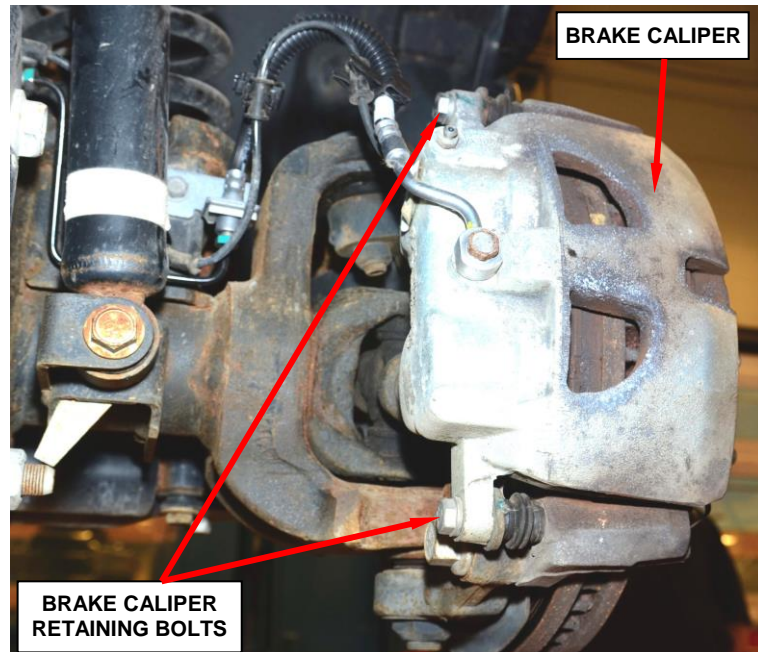

Figure 6 – Brake Caliper Retaining Bolts
7. Remove the front brake caliper retaining bolts and support the calipers using a bungee cords or equivalent (Figure 6).
17. Install the front brake calipers (Figure 6). Tighten the brake caliper retaining bolts to 55 ft. lbs. (75 N·m).